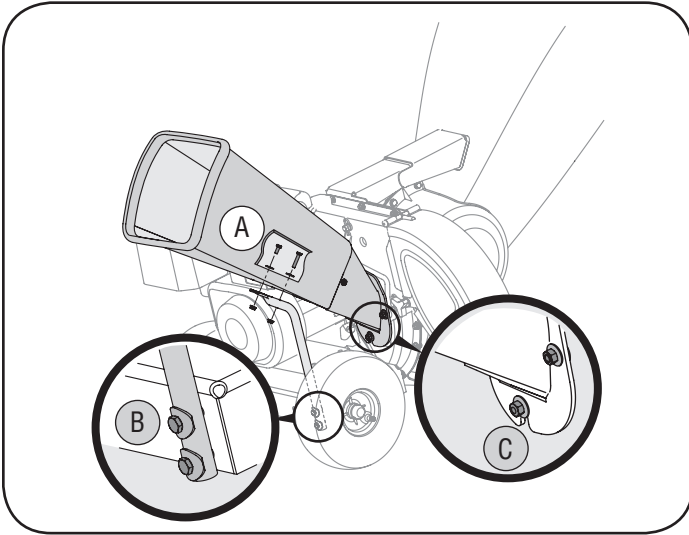

Figure 7
4. A. Align the holes in the chute with the holes in the top of the brace and attach brace to chipper chute with hardware previously removed. The flat washers should be placed under the bolt heads and against the inside surface of the plastic chipper chute. Tighten securely. See Figure 7.